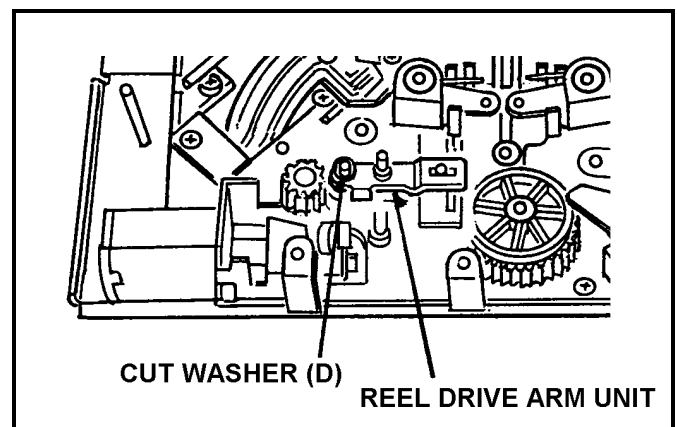

Fig.6-22-2 Removal of Reel Drive Arm Unit
3. Remove the L-M Release Angle Unit. (Refer to item 6-21).
4. Remove the Reel Drive Sensor P.C.Board (Refer to item 6-20).
5. Remove the Cut Washer (A) and remove the Reel Drive Cam Gear.
6. Remove the Cut Washer (B) and remove the MIC Drive Arm Unit.
7. Remove the Cut Washer (C) and remove the MIC Geneva Gear.
8. Remove the Cut Washer (D) and remove the Reel Drive Arm Unit as shown in Figure 6-22-2.
9. Remove the Supply and Take Up Reel Rotor Unit (Refer to item 6-3).
10. Remove the 2 Cut Washers (E) and remove the Supply and Take Up Base Drive Arm Unit.
11. Remove the 2 Cut Washers (F) and remove the Slide Rod Unit.
4. Place the REC Inhibit SW in front position on Distinction SW Unit by rotation of MIC Geneva Gear, and then MIC Geneva Gear should be positioned as shown in Figure 6-22-2.
Note: Protrusion of MIC DRIVE Arm Unit is positioned as shown in Figure 6-22-2.